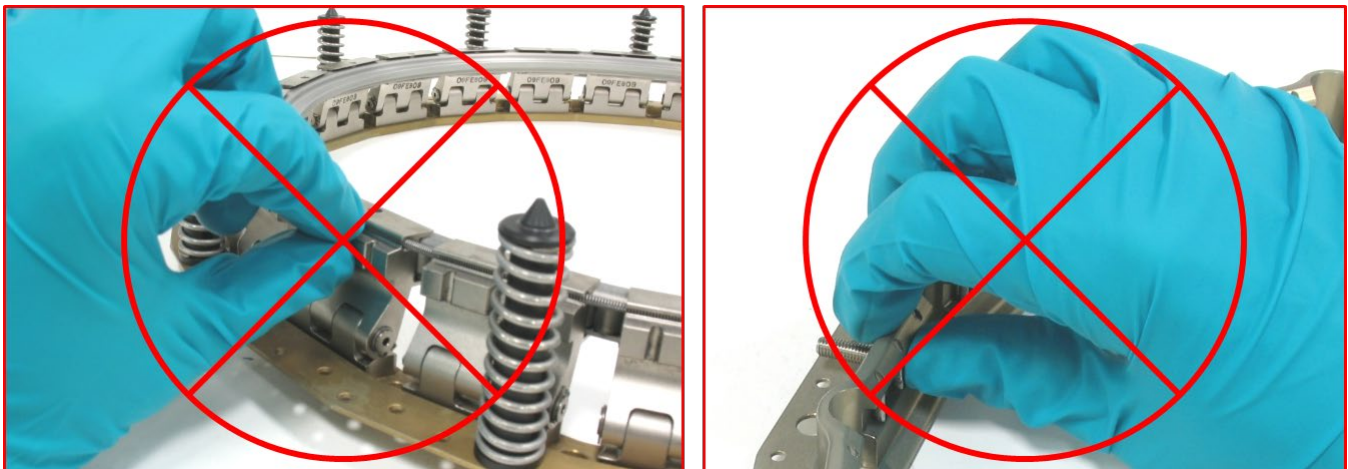

Figure 6-2: Do not touch the Leaf lip or its corresponding groove in the Upper Ring
2. Do not touch the portion of the Hinged Leaves that engage the Upper Ring. Do not wipe off the grease during cleaning. See Figure 6-2.
1. Do not touch the Leaf groove. Do not remove grease from the groove when cleaning. See Figure 6-2.